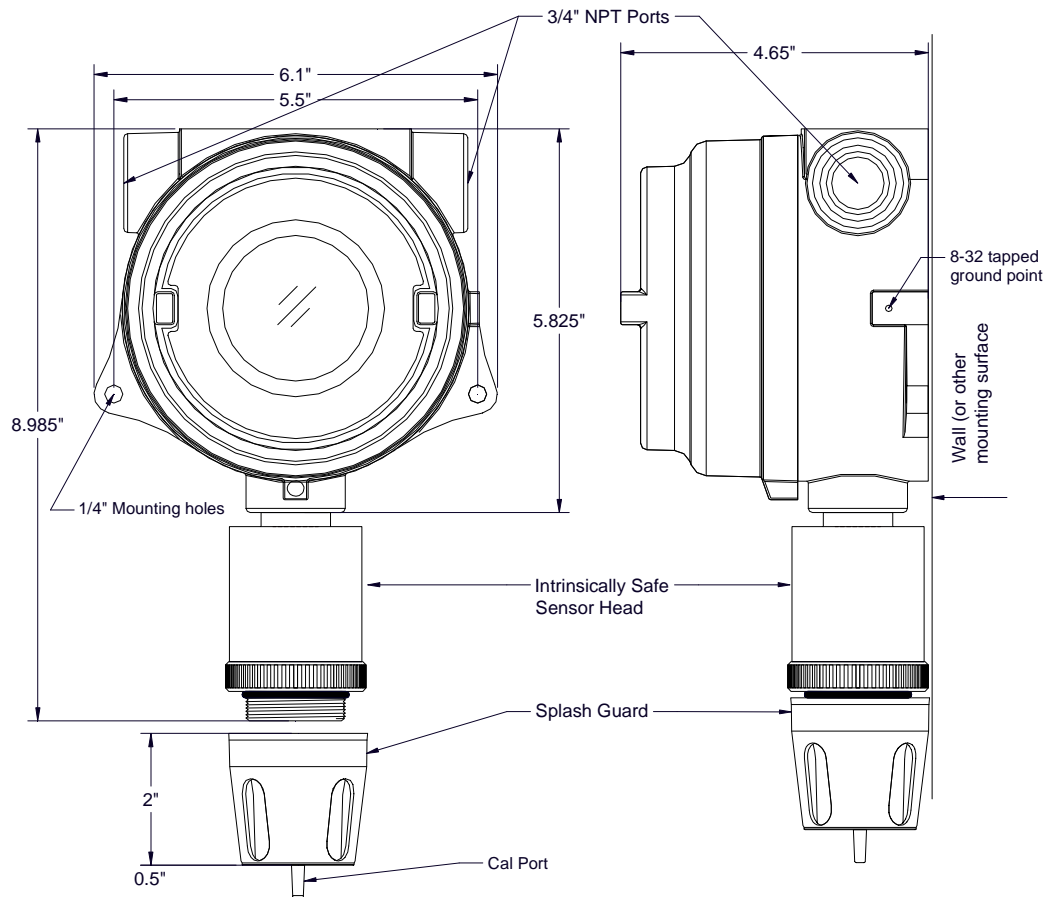

Figure 7 Typical Outline and Mounting Dimensions
- a. Securely mount the sensor junction box in accordance with recommended practice. See dimensional drawing (Figure 7).